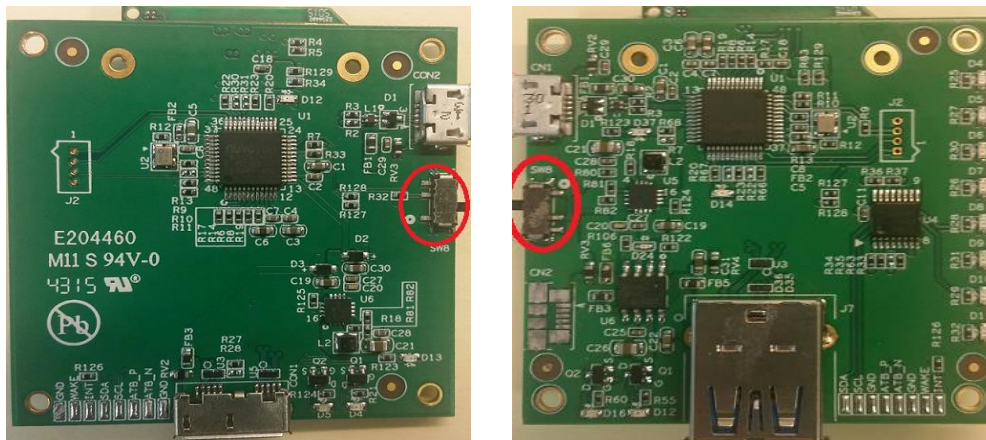

Figure 2.7. Snap Interface Board – Location of Firmware Upgrade Switch
1. Slide the switch to the “•” (dot) position, as shown in Figure 2.7.